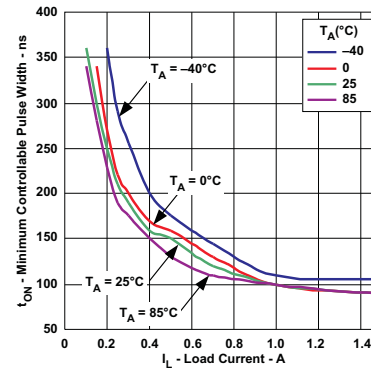

Figure 14. Minimum Controllable Pulse Width vs Load Current
(3) See Figure 14 for ISWx peak current <1 A.